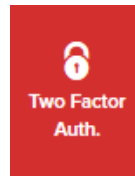

Figure 8. Partner Portal (Two Factor Auth. icon)
4. Click the **Two Factor Auth.** link on the left-hand side of the web page (Figure 8 \(page 33\)).